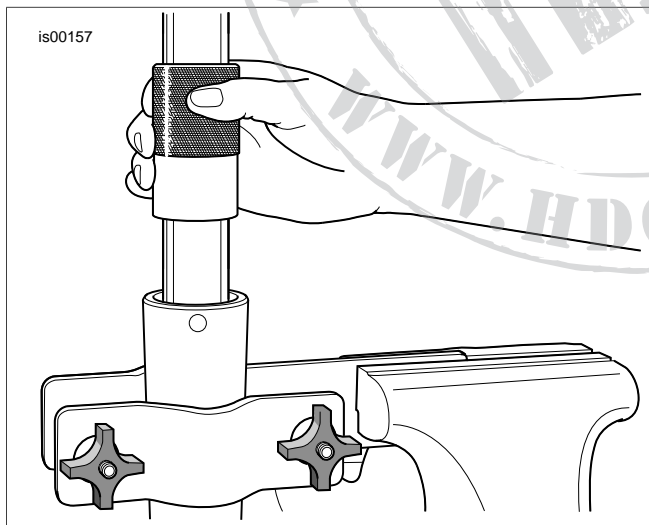

Figure 5. Install Fork Oil Seal
- b. See Figure 5. Using the tool like a slide hammer, drive fork oil seal (with slider spacer and guide bushing) down the fork tube until retaining clip groove is visible in fork slider ID.
- c. Slide the retaining ring (H) down the fork tube until it contacts the fork oil seal. Install retaining clip in the fork slider groove. Do not expand or stretch retaining clip to install on fork tube or clip may become bent or distorted.
9. Install blow valve (E).